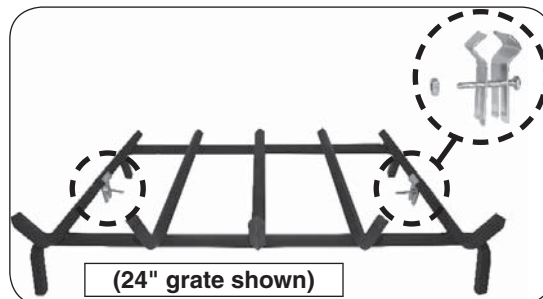

Fig. 12-1 Attach stabilizer clips to grate
1. Locate the grate (outside of the fireplace) and attach the stabilizer clips to the 2 outer bars of the grate using the provided screws and nuts (see Fig. 12-1 and Fig. 12-3). The stabilizer clips should be positioned toward the middle of the outer bars and oriented as shown in Fig. 12-1. Tighten the clips in place.